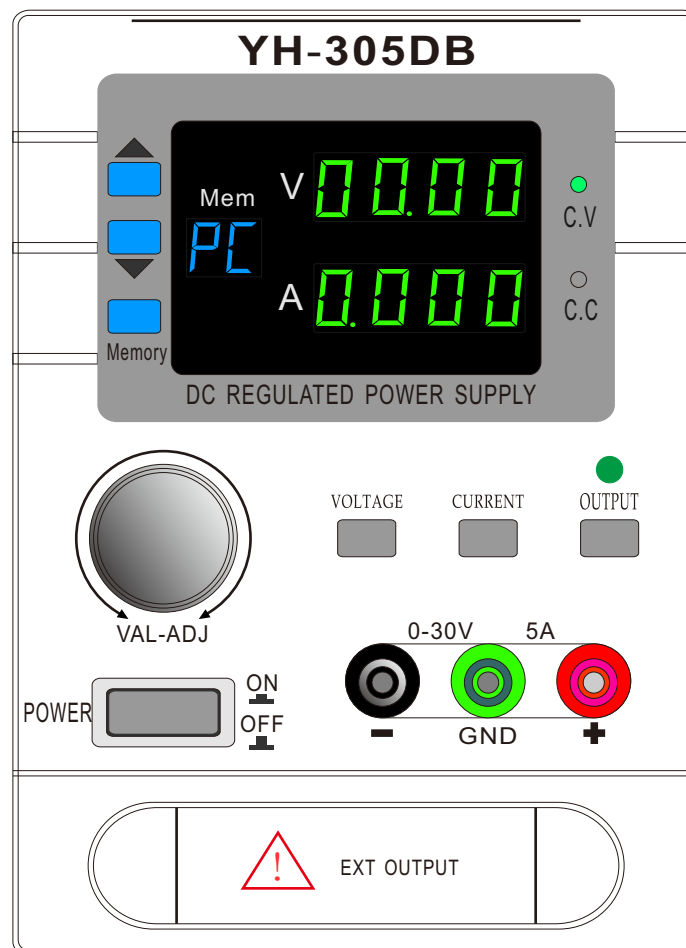

Figure 10
2. After connect successfully, host computer will display it, the power supply display "PC" as figure 10.